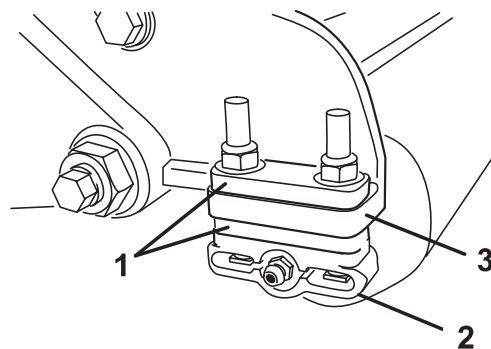

Figure 9
1. Adjust rear roller brackets (Figs. 9) to the desired height of cut range.
- Position the required amount of spacers below the sideplate mounting flange (Fig. 9) per the HOC Chart on page 11.